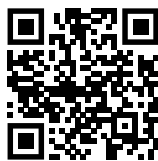

Fig. 155
- ▶ 请打开 Liebherr SmartMonitoring Dashboard。(参见 Fig. 155)